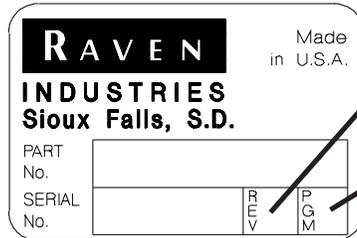

**FIGURE 6**
- 3) Turn POWER ON/OFF switch OFF and route the Red and White battery wires to a 12-volt battery. Attach the White battery wires to the **NEGATIVE (-)** terminal and the Red battery wire directly to the **POSITIVE (+)** battery terminal. (See Figure 6 on page 8). (**DO NOT CONNECT RED AND WHITE WIRES TO THE STARTER**). Secure the battery wires with plastic cable ties. **DO NOT** tie the battery wires close to the existing battery leads or any other electrical wiring.